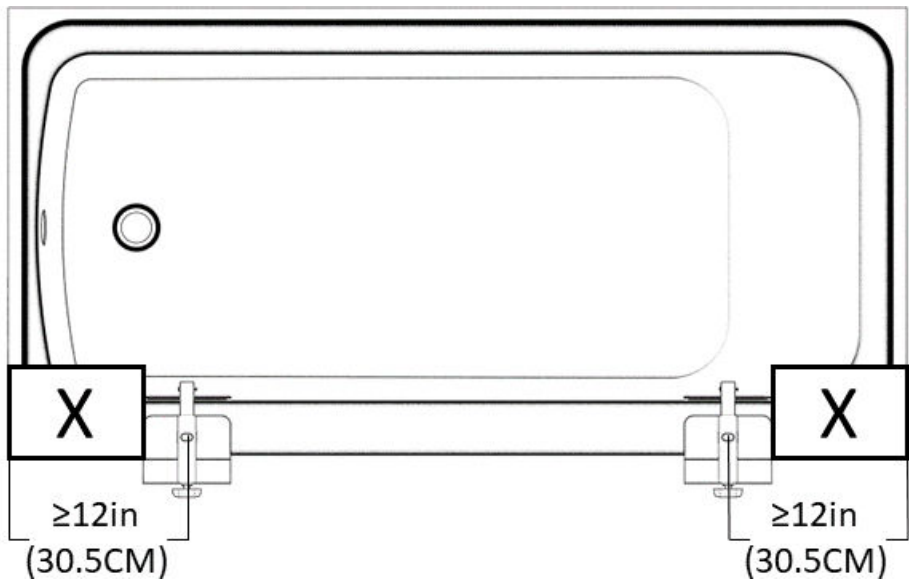

FIGURE 2
2. Determine the best location along the bathtub to mount **A**. See Options 1 & 2 below for recommended locations. **Note:** **A** must be mounted where the tub is flat both inside and outside as shown in *FIGURE 2*. The center of **A** must be at least 12in (30.5CM) from the wall to allow space for **H**.